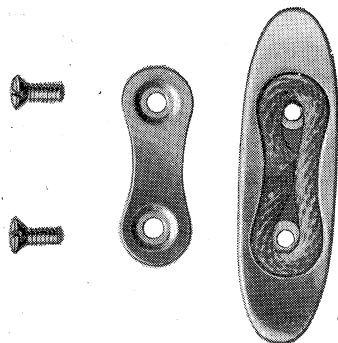

Fig. 24
3. Obtain new cord. Attach grip as shown in Fig. 24. Use only the special cable provided by the manufacturer.